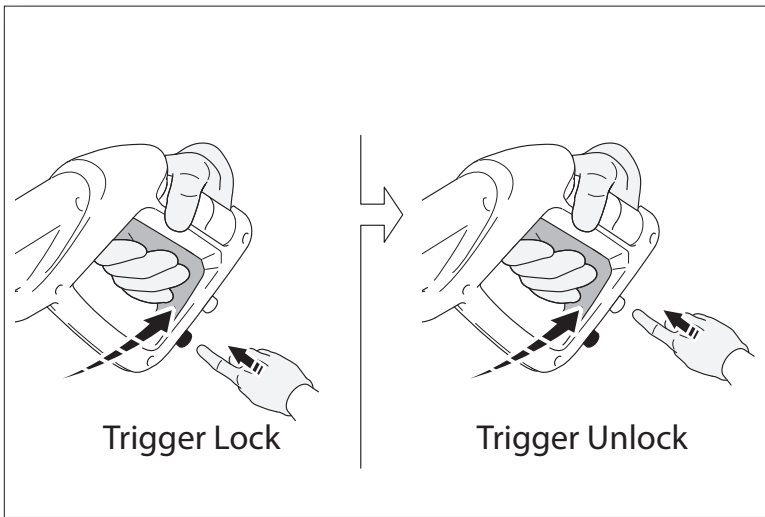

Fig. 7
- To lock the trigger of the spray gun pointing the gun away from you and push the lock button front to lock, (**Fig. 7**), after doing so, squeeze or pull the trigger to make sure it is locked and will not move. Always leave lock button in lock position when not in use. This ensures the gun is in “safe” mode until it is ready for use.